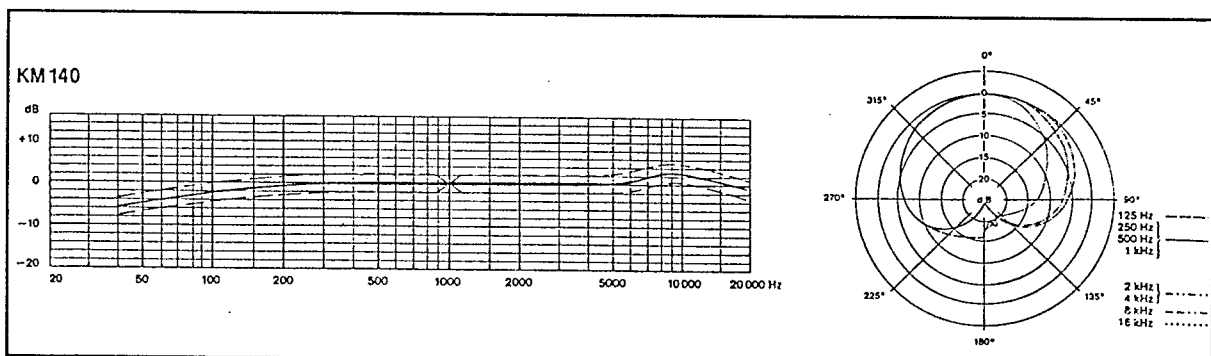

Fig. 6 Microphone with AK 40 cardioid capsule
- b) The pressure gradient receiver with cardioid polar pattern displays very even frequency curves parallel to the sound incidence angle 0°. Consequently, sound over a pick-up angle of $\pm 135^\circ$ is reproduced without any colouration, and the microphone has a level frequency response in either free or diffused field. Its sound character is therefore unaffected by the critical distance of the recording premises (Fig. 6). As a pressure gradient receiver, this capsule has the property of lending a lift to the bass range of very close-proximity sounds ("Proximity Effect" [1]). As a result, when it is used for speech or song the slightest differences in spacing become audible parts of the sound pattern and lend a lifelike presence to the performance.